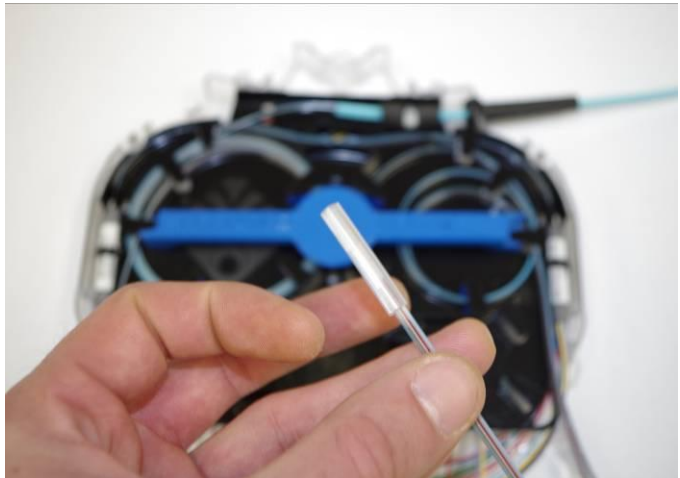

Figure 3
- Step 3:** **Reminder:** Slide a 40mm mass fusion splice sleeve with strenght member over each of the two ribbon pigails before preparing the fiber to splice (**Figure 3**).